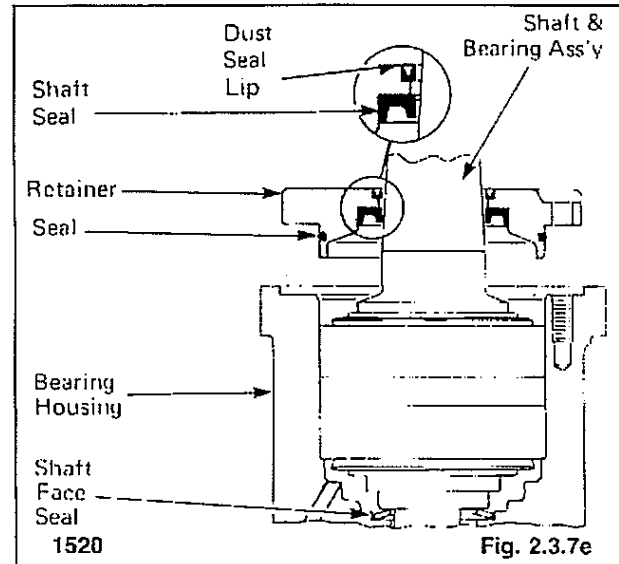

Fig. 2.3.7e
6. Install the retainer cover over the shaft with a twisting motion (fig. 2.3.7e). Be careful not to distort or damage the shaft seal during assembly. Damage to the shaft seal will cause external leakage.